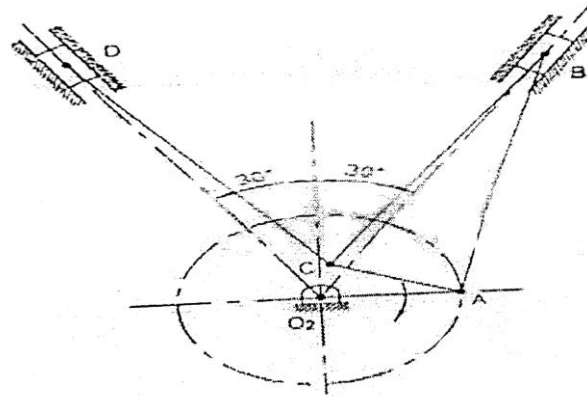

Fig. 3
Q.4 Figure 3 shows the mechanism used in two cylinder 60°V engine crank 2 rotates in clockwise direction at speed of 2000 rpm. Determine for the position shown the velocities and accelerations of the sliders B & D Given  $O_2A = 20\text{mm}$ ,  $AC = 20\text{mm}$ ,  $AB = BC = 60\text{mm}$  &  $CD = 50\text{mm}$